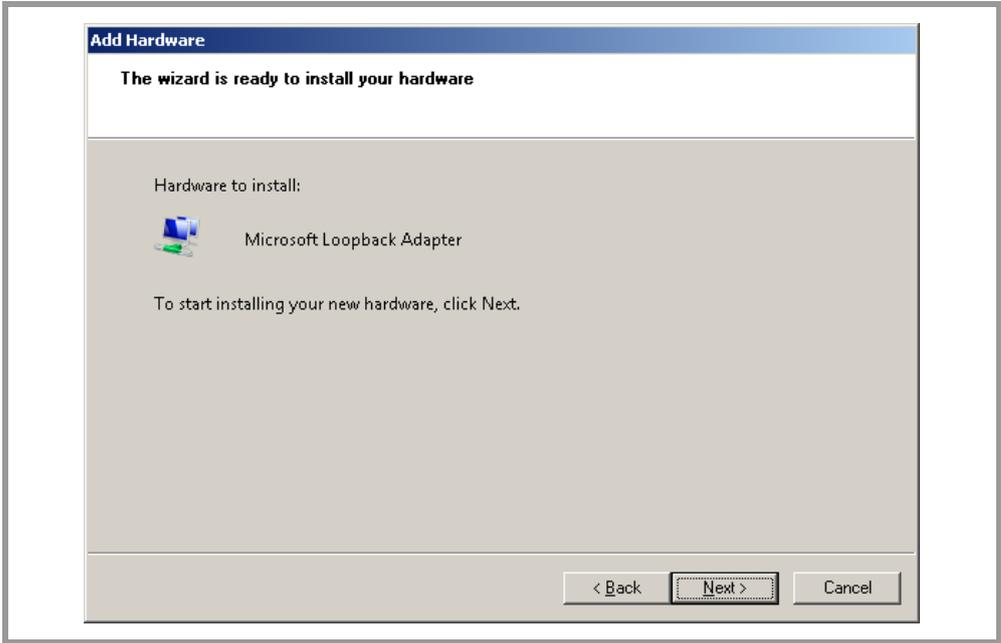

Fig. 4 Loopback Adapter installation confirmation dialog
5. The confirmation dialog as shown in Fig. 4 appears. Click "Next".